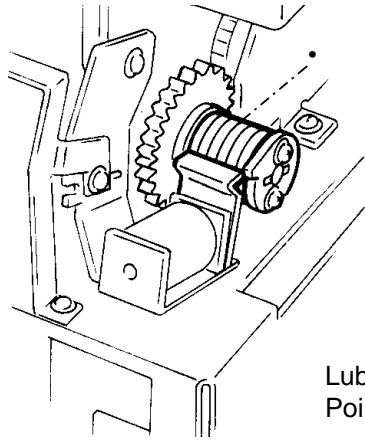

Figure 4. Paper feed clutch
10. Lubricate the drive gears with silicone grease, P/N 70P00027 (figure 4).